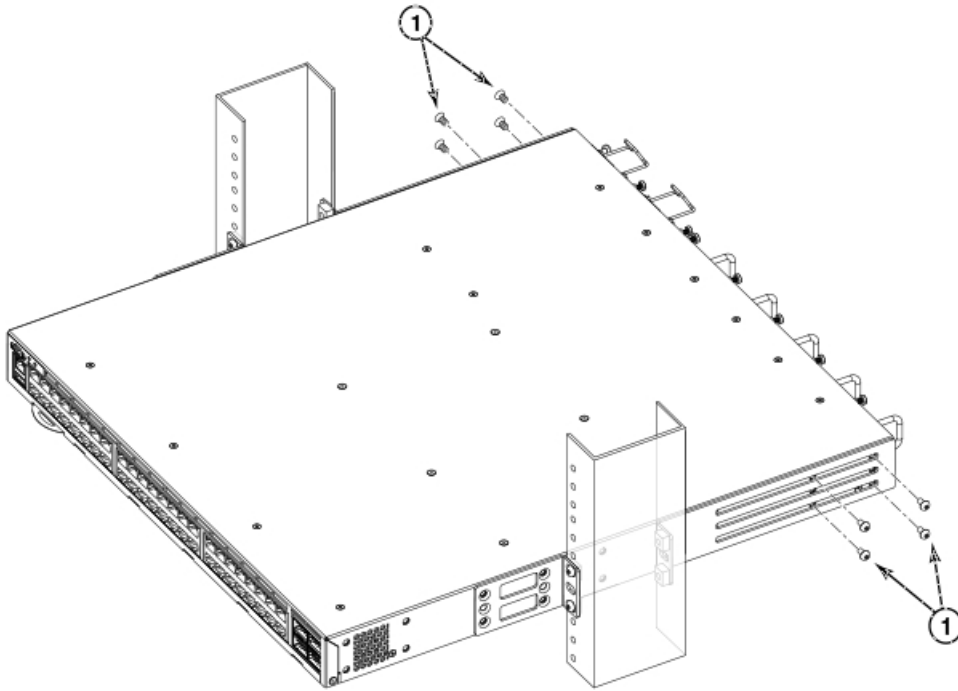

Figure 22. Attaching the rear brackets to the device
1. Align the right rear bracket to the right rear of the device and use four 8-32 x 5/16-in. panhead screws to attach the bracket to the device, as shown in Figure 22 on page 36. Be sure to insert the screws through the upper and lower slots in the bracket.